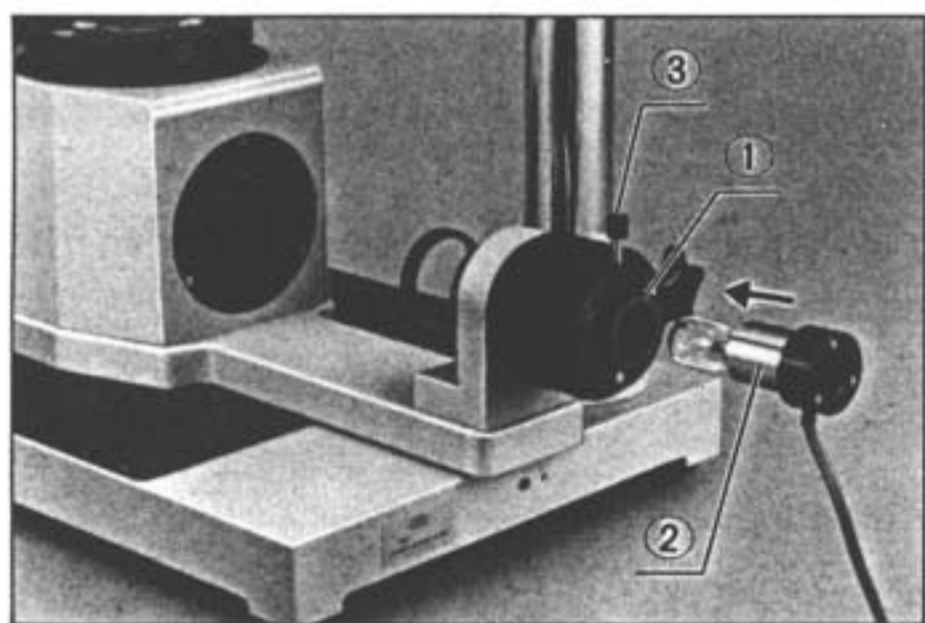

Fig. 8
- 3) Insert the bulb socket ② into the rear sleeve ① of the lamp housing all the way and clamp the knob ③. (Fig. 8)
- 1) Loosen the socket clamping knob ③ and slide out the socket. (Fig. 8)